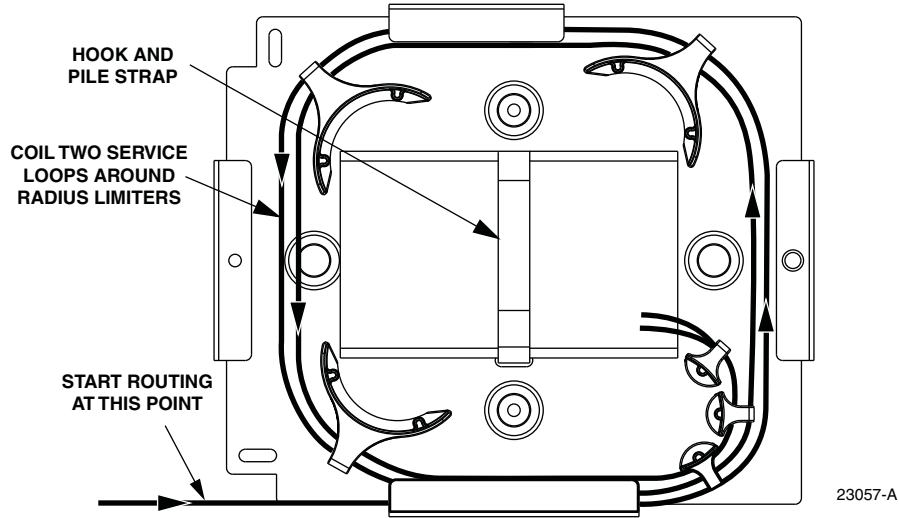

Figure 20. Feeder Splice Tray Replacement - Ribbon Fiber Splicing
15. To replace the splice tray, route the attached tubes around the splice tray holder radius limiters (there should be 2 service loops) as shown in Figure 20. Avoid twisting or kinking the fiber tubes.